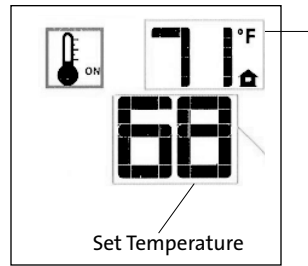

Figure 64. Thermostat ON.
- To activate this function, press the Thermostat Key. The display will indicate that the room thermostat is “ON” and the current Set Temperature is now displayed. Fig. 64.